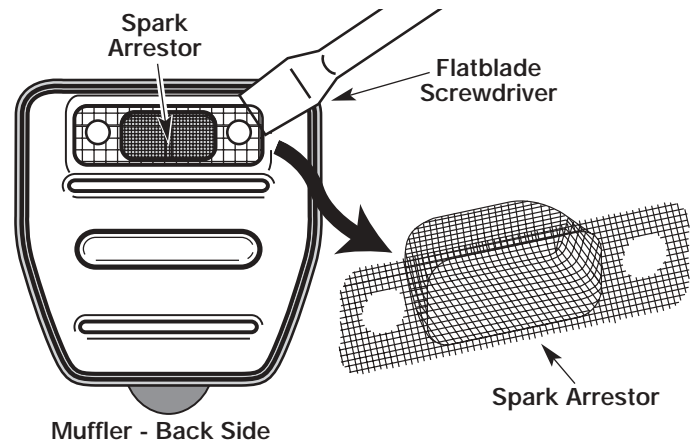

Fig. 53
4. Using a small flatblade screwdriver, carefully pry up the spark arrester from the recessed hole (Fig. 53). Remove the spark arrester from the muffler.
5. Clean the spark arrester with a wire brush. Replace it if it is damaged or if it is impossible to clean thoroughly (Fig. 53).